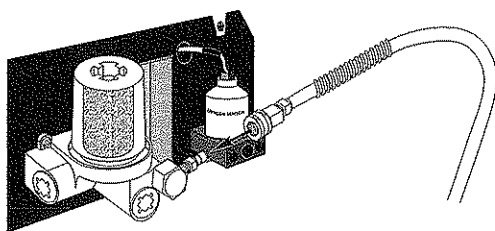

FIGURE 8:
4. Connect the sample hose to the analyzer at the **EXHAUST GAS INput** connector on the rear of the analyzer (see figure 8).